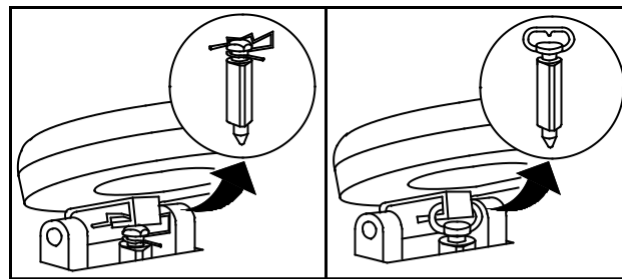

Fig. 141
1. Install inlet needle to float as shown, Fig. 141. Open end of hook on spring must face away from venturi.